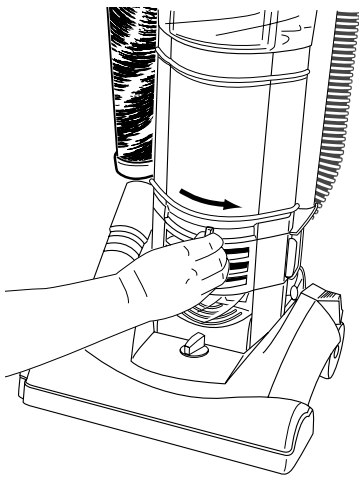

FIG. 13
Step 4: Reposition dust cup in cleaner body and secure by moving lever from left to right (FIG. 13).